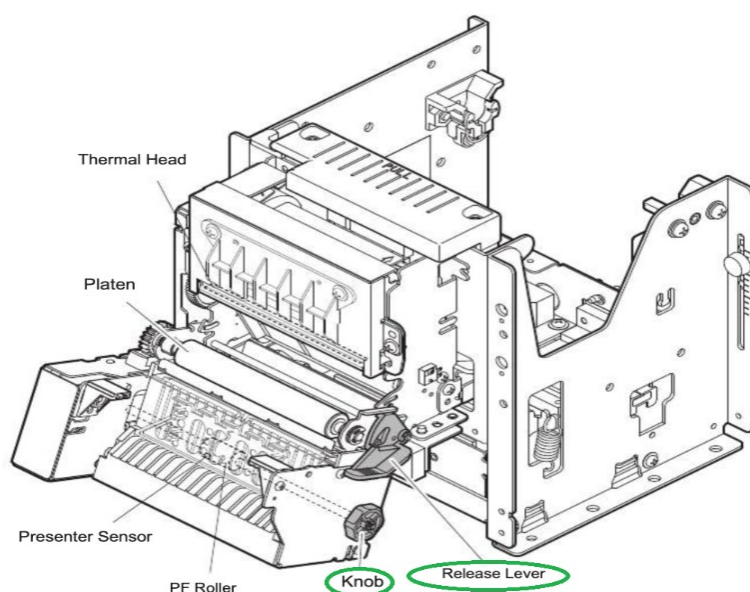

Figure 78. Printer
- Open the platen unit using the **green** release lever, as shown in Figure 78
- Rotate the **green** knob to remove the jammed paper, as shown in Figure 78